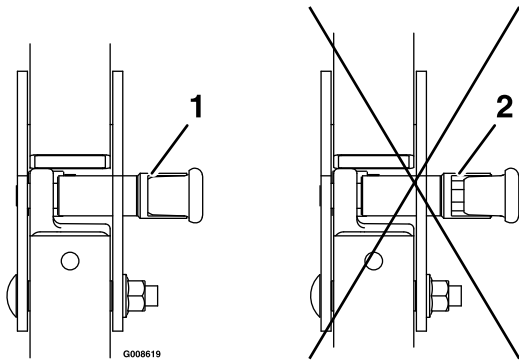

Figure 13
5. Make sure the knobs are fully engaged with the roll bar in the raised position. The upper hoop of the roll bar may need to be pushed forward or pulled rearward to get both knobs fully engaged (see Figure 13).